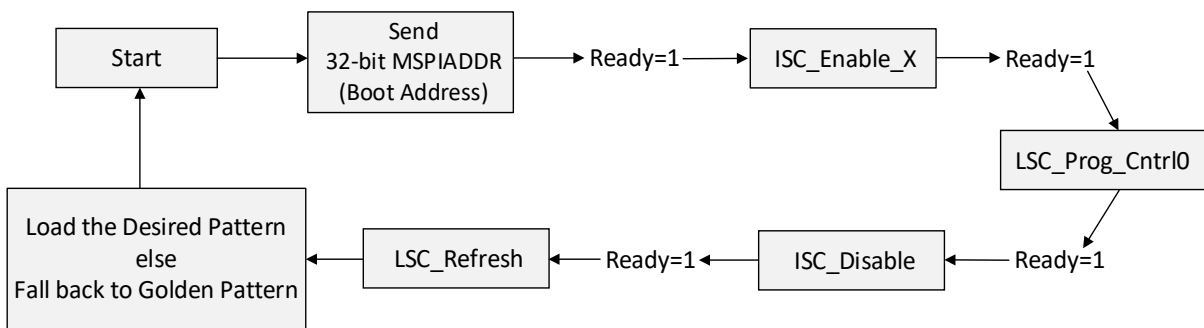

Figure 5.2. Implementation of Multi-Boot Feature Using MULTIBOOT Primitive Flow
- Lmmi host controller: This controller implements a state machine controller to send the necessary commands to the `CONFIG_LMMI` block, and sends the boot address to the `MULTIBOOT` primitive to boot the desired Alternate pattern stored in the internal or external SPI flash. The controller performs the following sequences. Refer to flow diagram below (Figure 5.2) for more details.